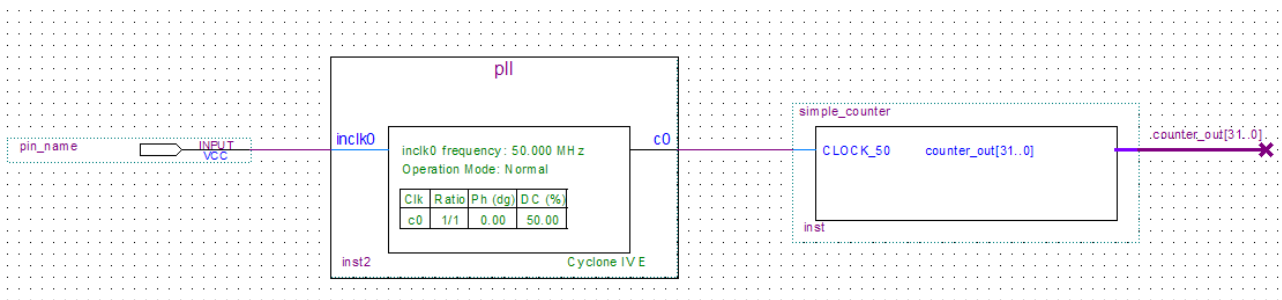

Figure 6-29 Connecting the PLL symbol and Input port
- e. Use the mouse to click and drag the new input pin to the left; notice that the ports remain connected as shown in **Figure 6-29**.